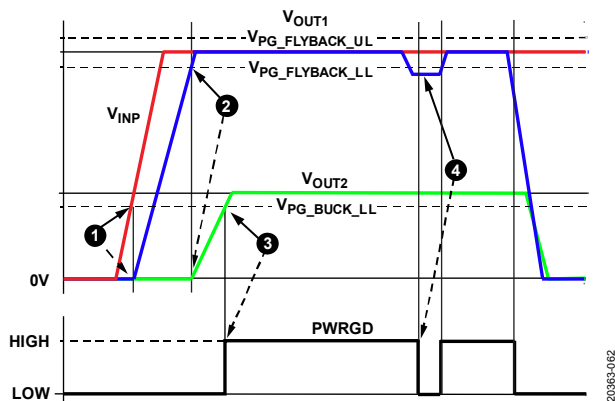

Figure 68. Power Sequencing and PWRGD
The power-up sequence is as follows (see Figure 68):
1. The flyback regulator powers up first (see Label 1 in Figure 68).
2. When  $V_{OUT1}$  rises above the lower power-good threshold ( $V_{PG\_FLYBACK\_LL}$ ), the buck regulator turns on (see Label 2 in Figure 68).
3. When the buck regulator output ( $V_{OUT2}$ ) rises above the lower power-good threshold ( $V_{PG\_BUCK\_LL}$ ), the PWRGD is driven high (see 3 in Figure 68).
4. If any of the two analog supplies move outside the power-good threshold ranges, PWRGD drives low after a short deglitch delay (see 4 in Figure 68).